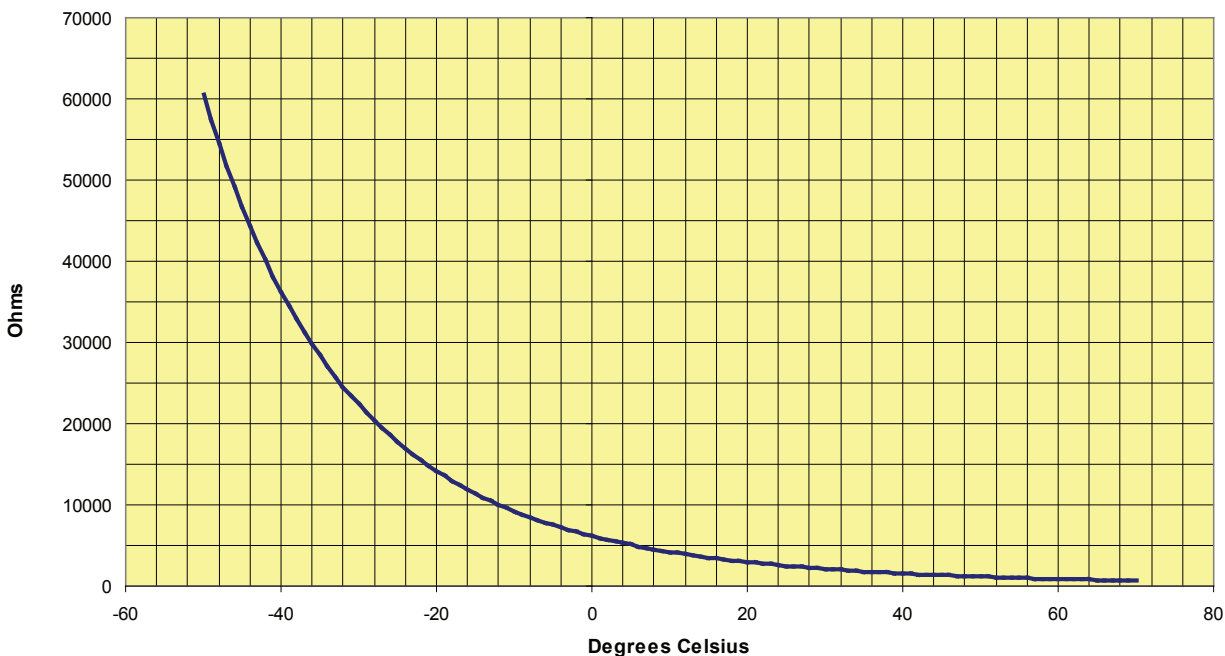
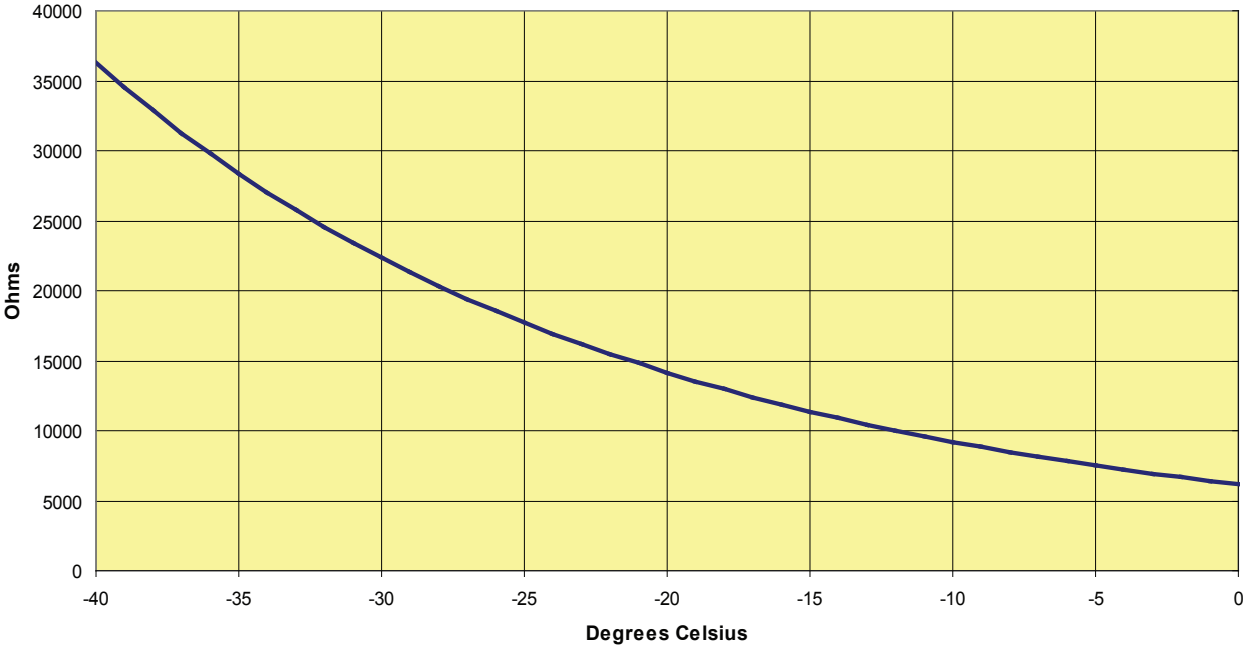

Figure 2. Thermistor resistance vs. temperature, -60° to +70°C.
Figure 3. Thermistor resistance vs. temperature, -40° to 0°C
- 1) Measure the thermistor resistance directly using an ohmmeter connected to the "Temperature Excitation" and "Temperature Out" wires, and then convert this resistance to temperature. This conversion may be done with the help of Figures 2, 3 and 4. Figure 2 graphs thermistor resistance vs. the full temperature range of -50° to +70°C. Figures 3 and 4 are enlargements of the regions below and above 0°C.
As shown by equation 3, the input voltage can vary during your measurements. What is important, however, is that the ratio of the input voltage to the output voltage, V_{in}/V_{out} , be accurately known. Once you have obtained the value of RT3 from equation 3, use Figures 2, 3 and 4 or equation 1 to obtain the internal tiltmeter temperature.